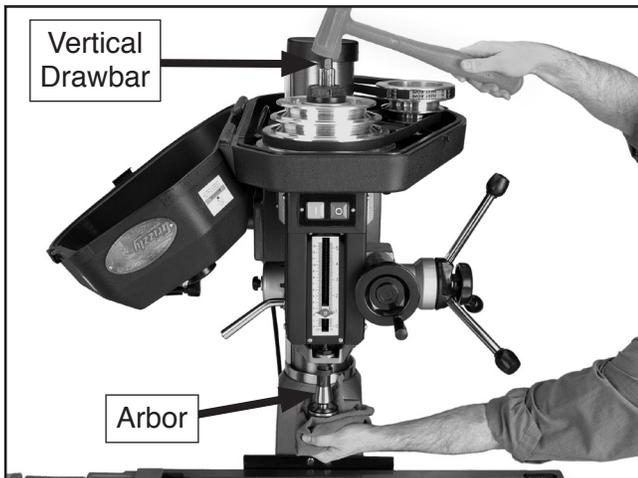

Figure 21. Collet removal.
2. Hold the cutter with a shop towel to prevent it from dropping completely out of the machine. Tap on the top of the drawbar with a rubber mallet to loosen the collet from the spindle (**Figure 21**).